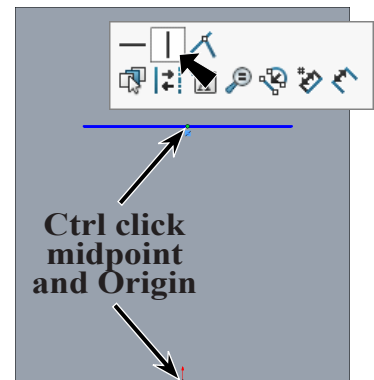

Fig. 27
Step 7. **Ctrl click midpoint**  of line and **Origin**  to select both. Release Ctrl key and click **Make Vertical**  on the context toolbar, **Fig. 27**.